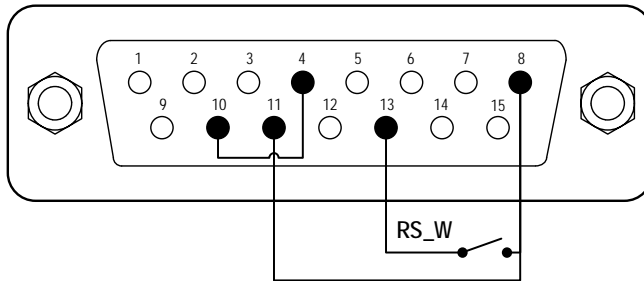

Figure 19. Logic Level Control with Internal 12V Power Source
- 1) Switch the power of the pump off. Wire the DB15 connector as shown on Figure 19 or Figure 20, and connect it to the DB15 port on the rear of the pump.